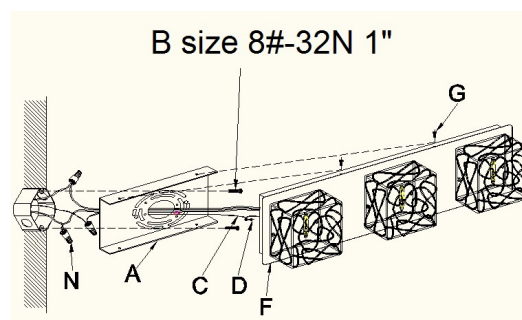

Fig.2
CONNECTING THE WIRES (Fig. 2)
5. Pass the black/white and bare copper wires through the opening of the mounting plate (A). Connect the electrical wire as shown in figure 2, making sure that all wire connectors are secured. If your junction box has a ground wire (green or bare copper), connect the ground wire from the fixture to it. Otherwise connect fixture ground wire directly to the mounting plate (A) using the green screw (D) provided. Tuck the wire connections neatly into the ceiling junction box as you hold the canopy towards the wall.